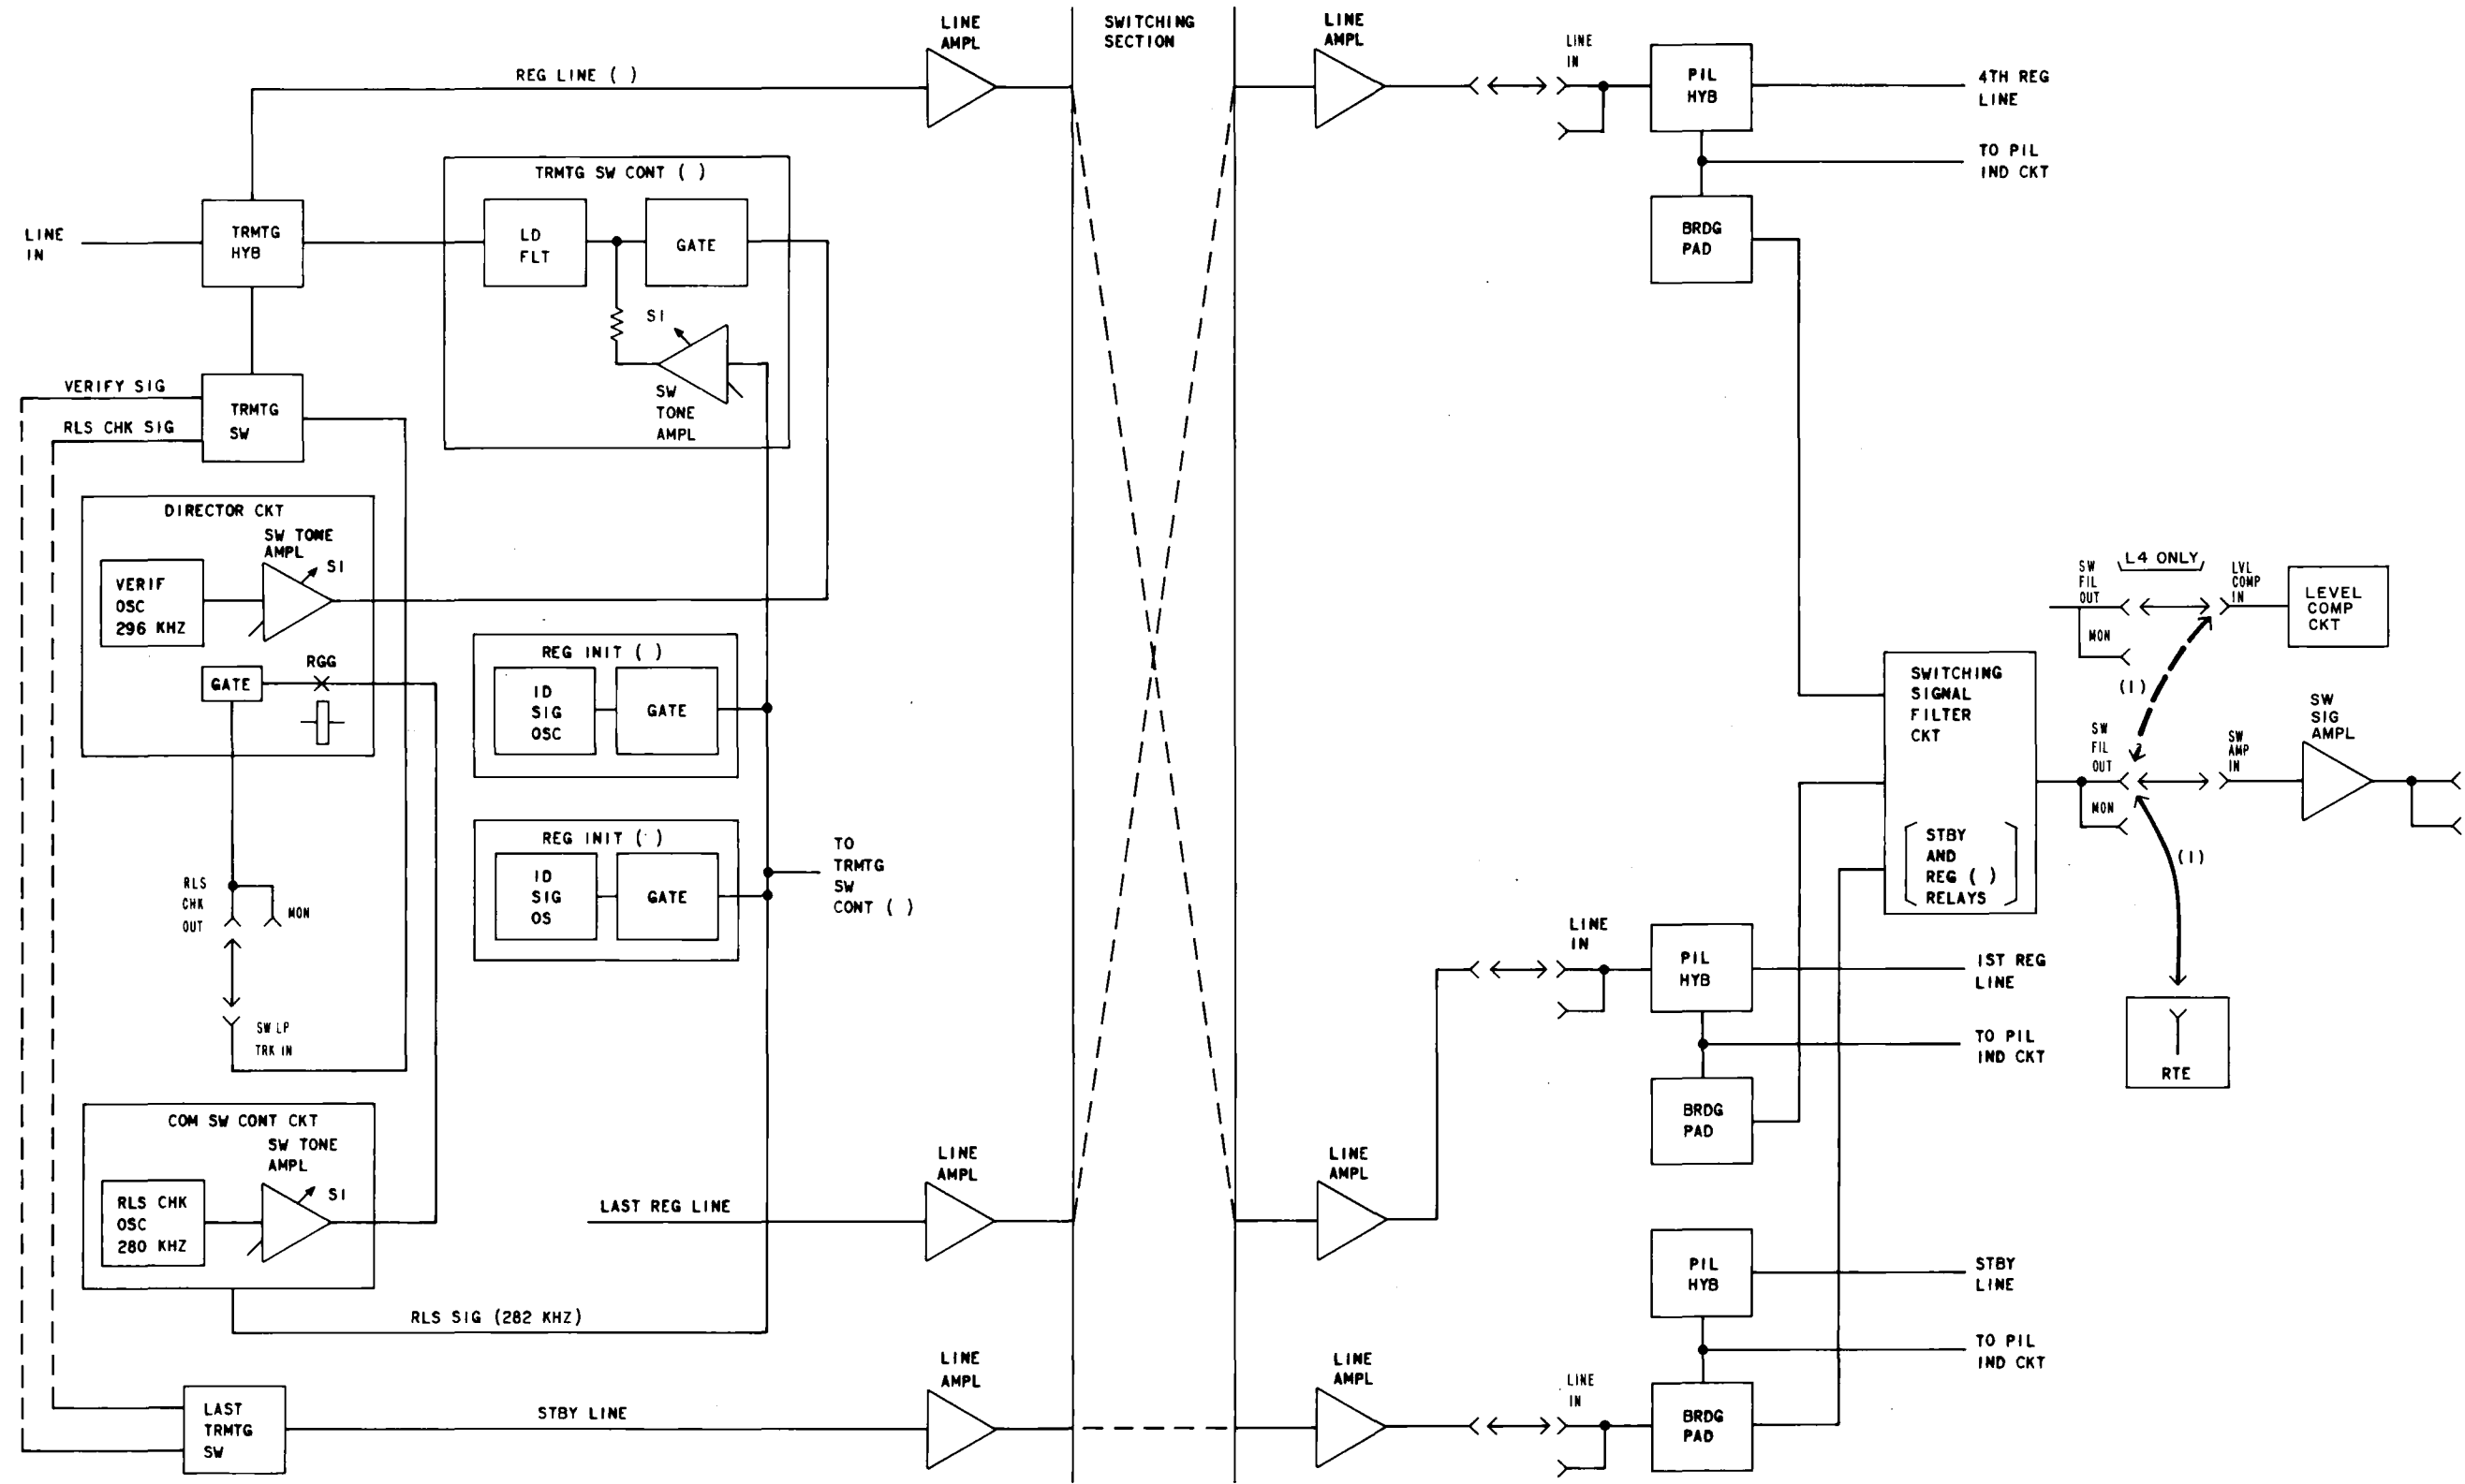

Fig. 3—L3 or L4—Switching Signal Level Measurement
- 5 Make patch (1), Fig. 3.
19	Disconnect patch (1), Fig. 3.